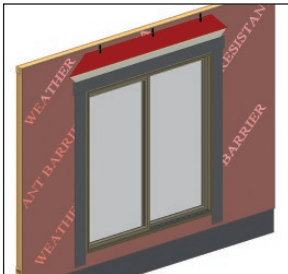

FIG. 26
- A) Cut and apply side flashing. Side flashing should run from the bottom of the sill flashing to 8" above the rough opening. (Fig. 26)